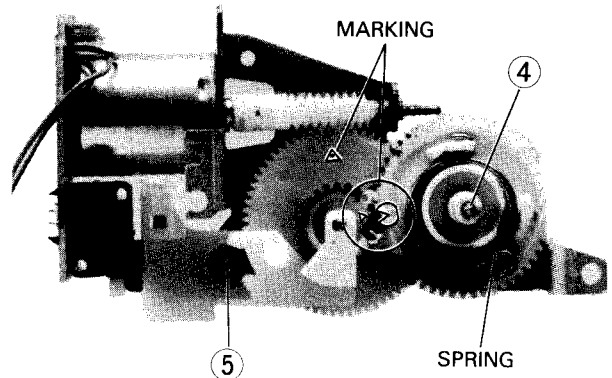
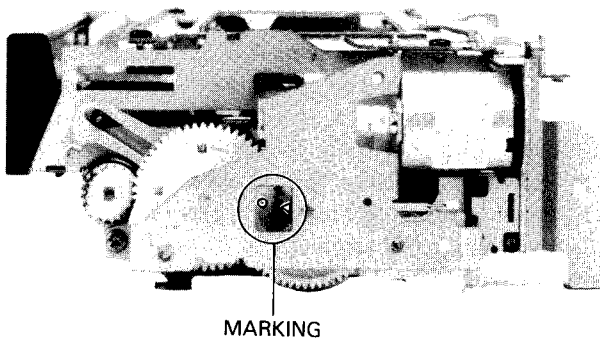

Fig. 11 Drive Gear (II)
Fig. 12 Marking on Gear
- * Position the triangular marking on the drive gear (R) so that it faces the worm gear. (See Fig. 11). The (○) and triangle can also be seen from the outside so that correct position can be checked after reassembling the motor block. (See Fig. 12)
- * Align marking (▷) on drive gear (R) with projection (◊) on the clutch gear. (See Fig. 11)
- * Attach the spring on the clutch gear to both gears (See Fig. 11)